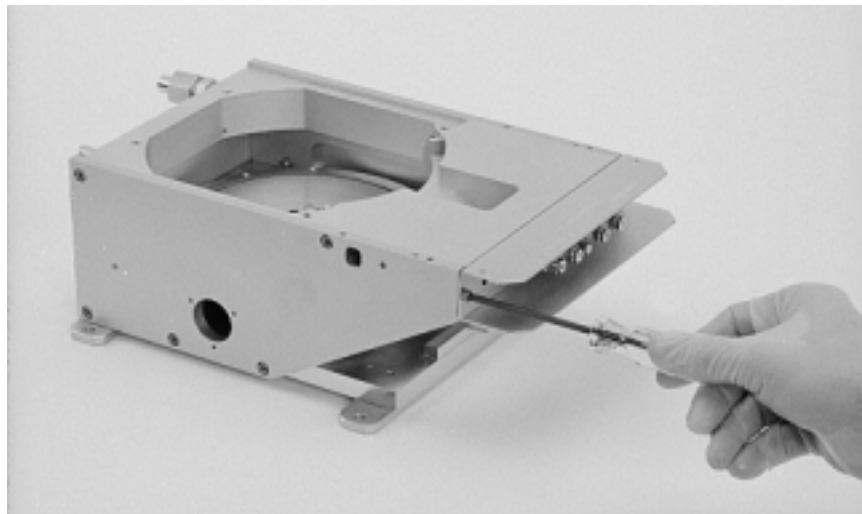

Figure 5-12. Removing the coil shield
Step 11: Remove the two 8-32 3/8" screws that secure the coil shield to the source, as shown in Figure 5-12. Then remove the coil shield.